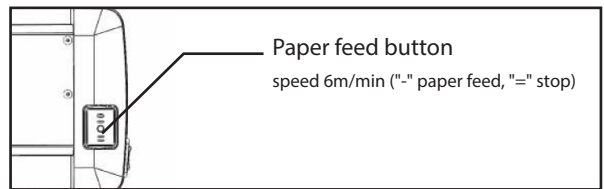

Fig. 5
4. Turn on the power and switch on the power button. Before operating the machine, please familiarize yourself with the function of each button. (Fig. 5)